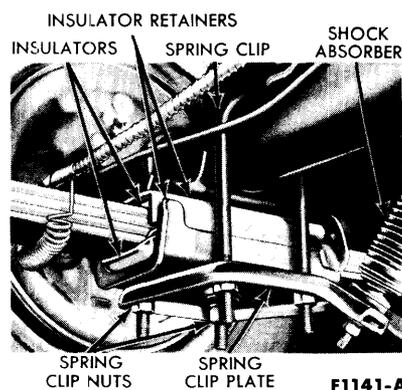

FIG. 10—Rear Spring Center Mounting
5. Lower the rear axle slightly to reduce some of the spring load; then remove the spring clip (U-bolt) nuts, the clips (U-bolts) and spring clip plate (Fig. 10). Remove the lower insulator and retainer.
3. Install the upper insulator and retainer on the spring with the retainer flange forward (Fig. 10).